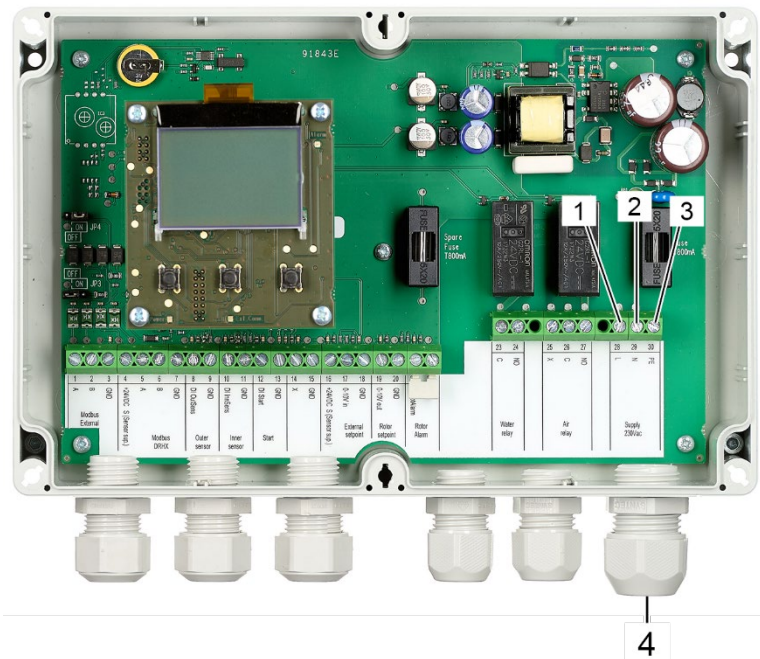

Fig. 93: Terminals power supply
33. Insert the power supply cable through the cable socket (Fig. 93/4).
34. Connect the phase wire to terminal 28 (Fig. 93/1, L).
35. Connect the neutral wire to terminal 29 (Fig. 93/2, N).
36. Connect the protective wire to terminal 30 (Fig. 93/3, PE).